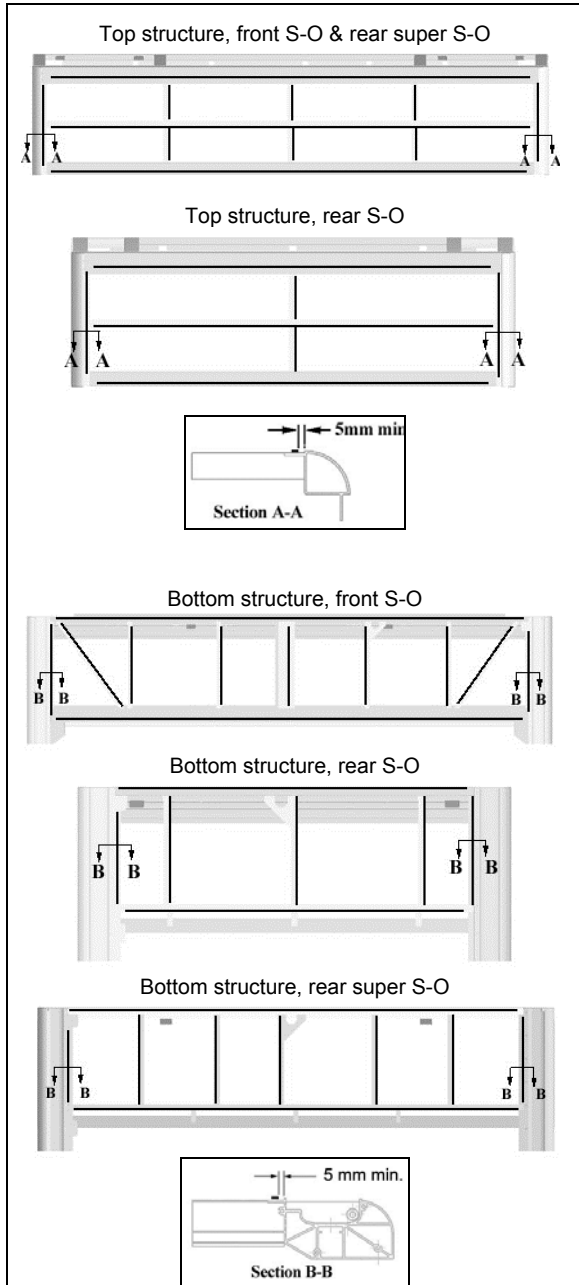

FIGURE 50 : TOP AND BOTTOM PANEL INSTALLATION - DOUBLE FACE ADHESIVE TAPE APPLICATION
2. Refer to FIGURE 50 for 1/16x1/4 double face adhesive tape location on structure [5mm≈6/32”];